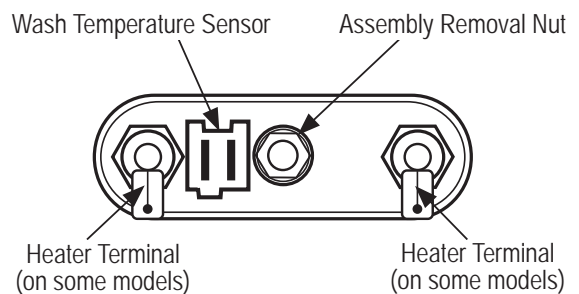

Figure 1 - Wash Temperature Sensor
6. Disconnect the wash temperature sensor connector from the heating element bracket. See Figure 1.